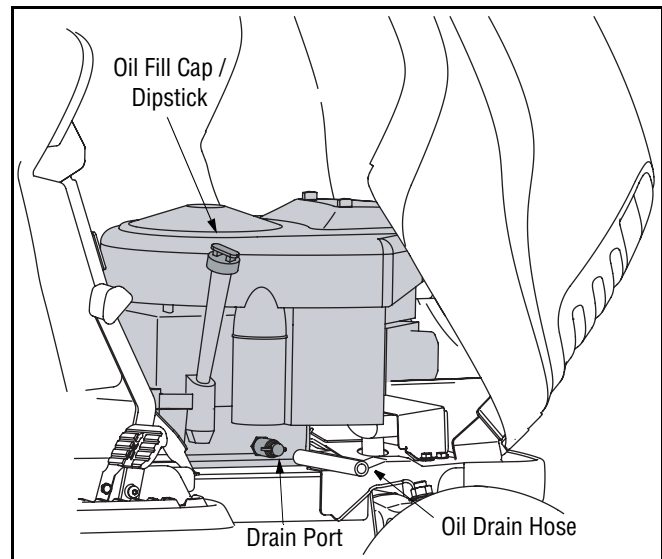

Figure 14
- Pop open the protective cap on the end of the oil drain valve to expose the drain port. See Figure 14